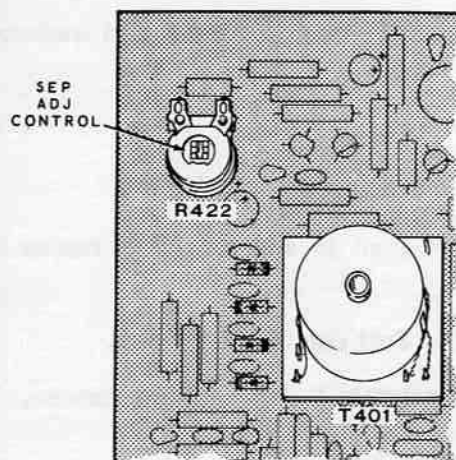

Figure 4-5
- () Turn the SEP ADJ (separation adjust) control fully clockwise as viewed from the component side of the multiplex circuit board. Then turn the control counterclockwise $1/4$ turn. Refer to Figure 4-5.
- () Adjust SEP ADJ control R422 (on the component side of the multiplex circuit board, see Figure 4-5) for a minimum reading on the Audio VTVM.